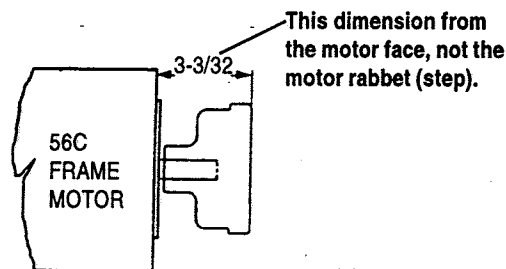

FIGURE 1
2. Slide drive magnet assembly (Item 8) onto the motor shaft until it is between 3-3/32" (3.094) and 3-7/64" (3.109) as measured from the motor face to the top of the drive magnet assembly. See Figure 1. Align set screws (Item 13) with flat or key slot on the motor shaft and tighten set screws with a 1/8" Allen wrench to 70 in.-lbs.